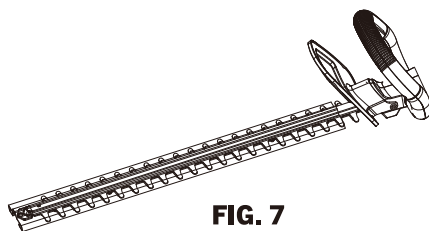

FIG. 7
2. Make sure the blade guard slides fully onto the cutting blades to ensure all cutting teeth are covered (Fig.7).